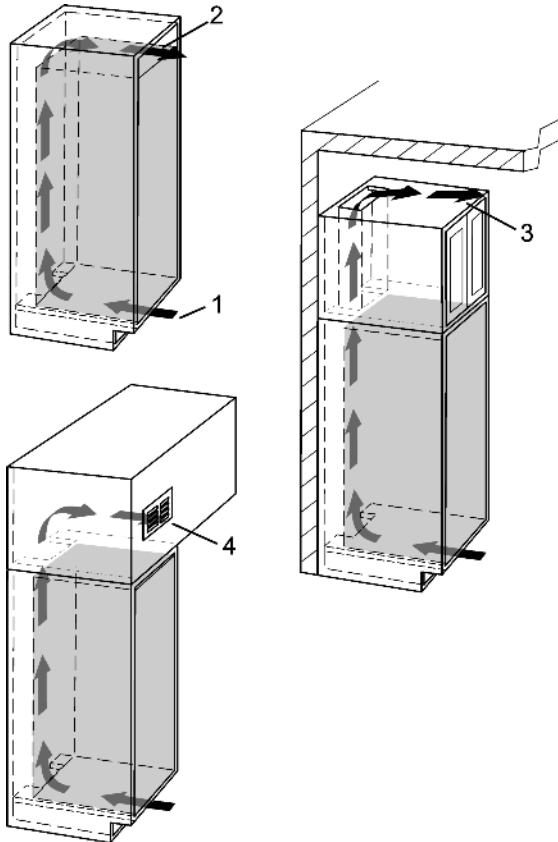

Fig. 4
- There must be a ventilation space at least 31 in2 (200 cm2) at the airflow inlet *Fig. 4 (1)* and at the airflow outlet *Fig. 4 (2)*.
- The top ventilation space can be either directly over the appliance *Fig. 4 (2)* or next to the ceiling over a cabinet *Fig. 4 (3)*, or through a vent installed in a soffit *Fig. 4 (4)*.